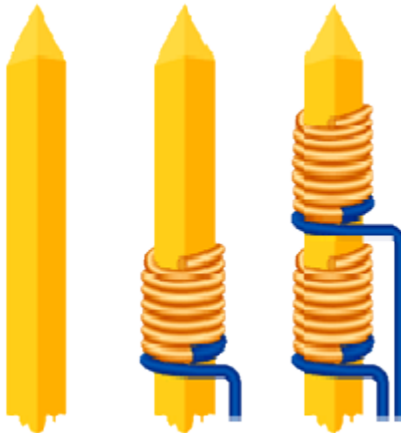

FIGURE 1. Depiction of wrap post with no, one, and two wire wraps.
5.1.1.10 Wrap post. Contact where the wire-contact electrical connection is made by helically wrapping the wire around a "post" feature on the rear of the contact. The wire is uninsulated (bare). An example is shown in figure 1.